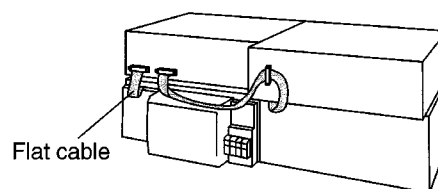

Fig. 8-2.
- Insert the flat cables at the back of the unit in the order indicated. Refer to Fig. 8-2.